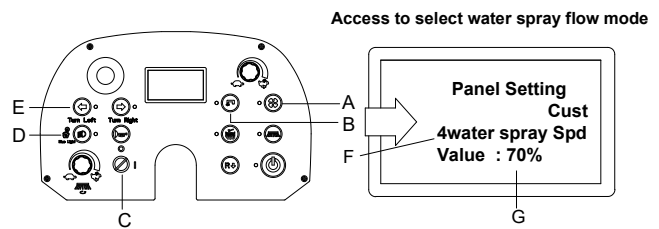

Figure 15
1. Press “vacuum button” (A, Figure 15) and “pump button” (B, Figure 15) at the same time.
2. Insert ignition key (C, Figure 15) and turn it to "I".
3. Several seconds later the system enters user setting mode (Figure 15).
4. Release both “vacuum button” (A, Figure 15) and “pump button” (B, Figure 15).
5. Press “Turn Left button” (E, Figure 15) to select the Item 4 “4Water Spray Spd” (F, Figure 15).
6. Press “vacuum button” (A, Figure 15) or “pump button” (B, Figure 15) to select water spray speed value (50%, 60%, 70% ...) (G, Figure 15).
7. Press “headlight button” (D, Figure 15), about 1 second later the screen displays "Update OK", indicating that water spray flow is set up, then restart the machine. (C, Figure 7).